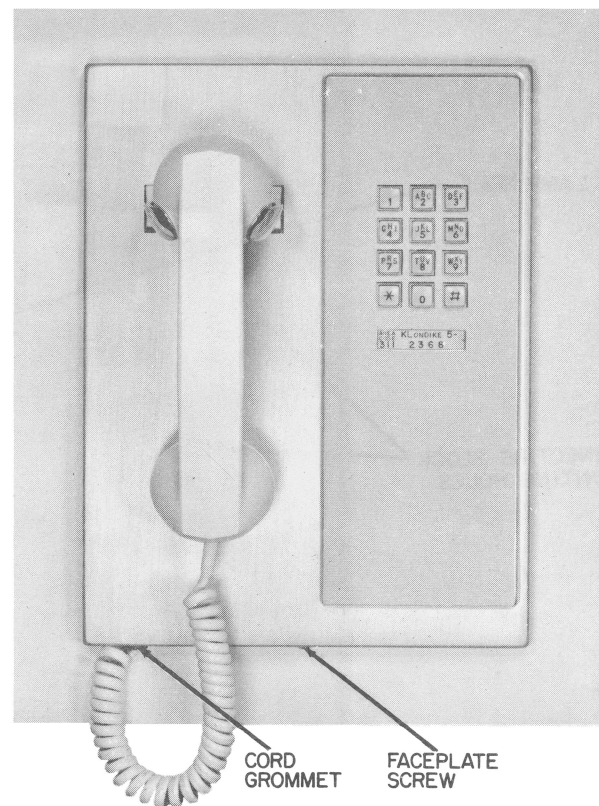

Figure 1. AECO Type 95 Panel Telephone Set (Touch Calling Version).
2.01 The Type 95 panel telephone set is arranged to mount in a 553060 steel housing (which must be ordered separately) designed for flush installation in an interior building wall. When so mounted (see Figure 1) its drawn aluminum faceplate, available with an anodized finish in either a natural shade ("silvertone") or deep tan ("browntone"), occupies a wall area of 9-1/4" x 12-1/2" and protrudes only 9/16" from the surface. A chrome hanger at the upper left of the faceplate supports a white handset on natural finish models or an ivory handset on those with brown finish. At the right side, a shallow depression in the faceplate is arranged to accept a 4" x 11-1/8" adhesive-backed vinyl decor panel. A set of six such panels, in fabric-textured beige, white, turquoise, tangerine, mocha tan and yellow, is furnished with each instrument. (Prior to introduction of the brown finish faceplate, only the first four colors were included in each set. A fabric-based, linen-weave vinyl material, which provides better control of stretching as the panel is removed from the backing paper, has been introduced on the tan